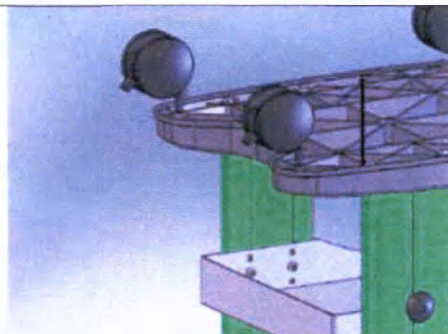

Рисунок 11
11. Install the wheels. Put the stem of the wheel in the wheel mount hole, see figure 11. Press firmly on the wheel directly above the stem until the wheel is fully inserted in the mounting hole. Repeat for all four wheels.